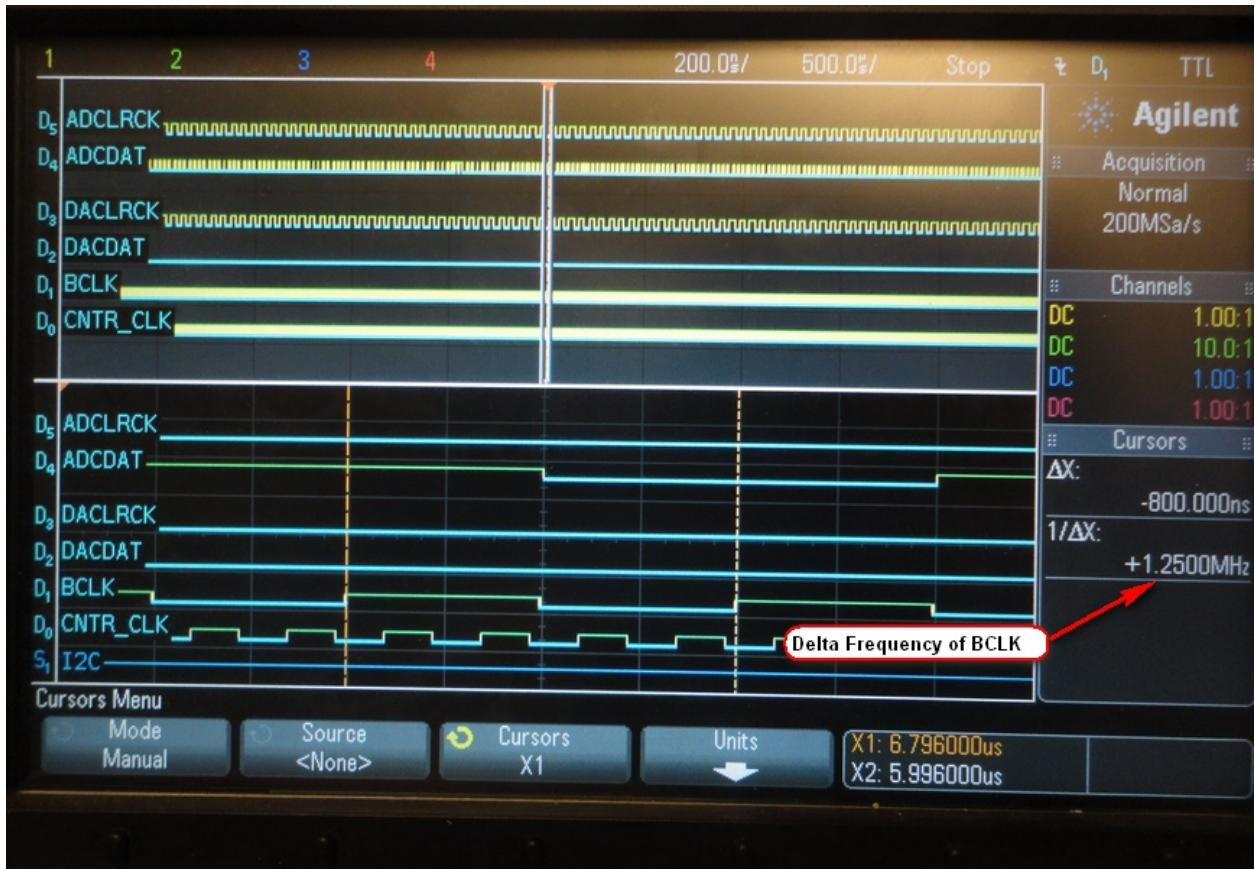

Figure 104 – Measuring the BCLK delta frequency
- The resulting delta frequency should be 1.25 MHz, see **Figure 104**.